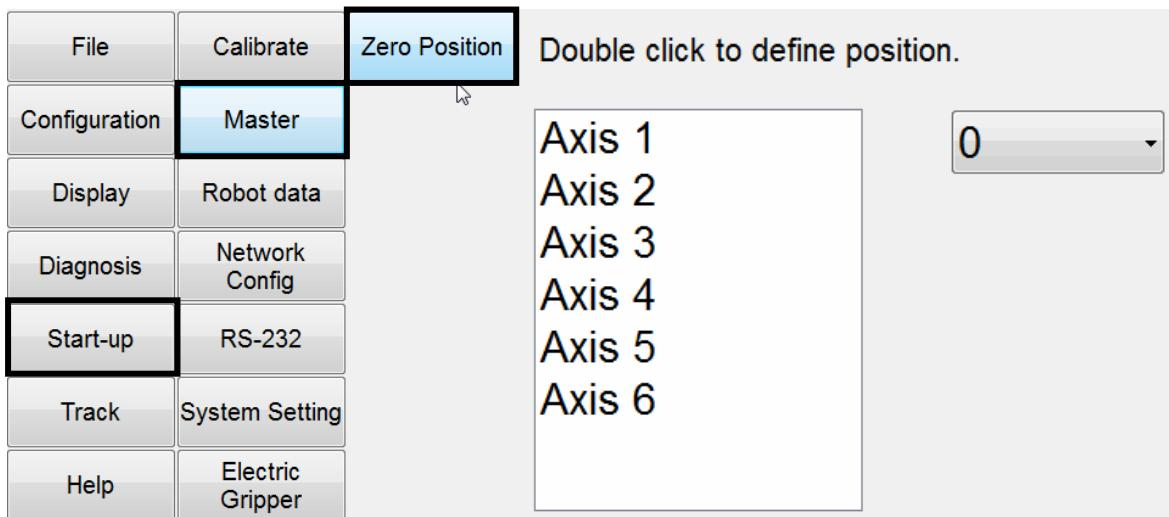

Figure 4-8 Clear encoder by HRSS
④ Clear encoder by HRSS
- Step4. Double click the axis to clear encoder. (As shown in Figure 4-8)